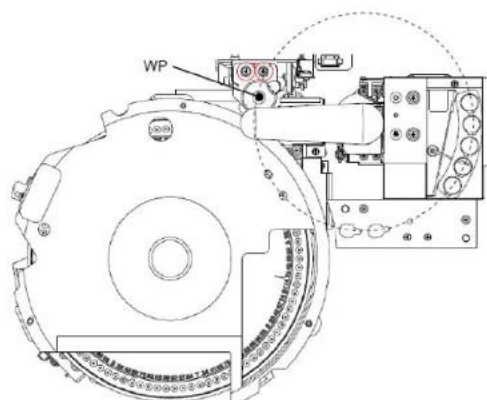

Figure 16 S washing station adjustment
- Loosen S Washing Station fixing screws. (Figure 16)